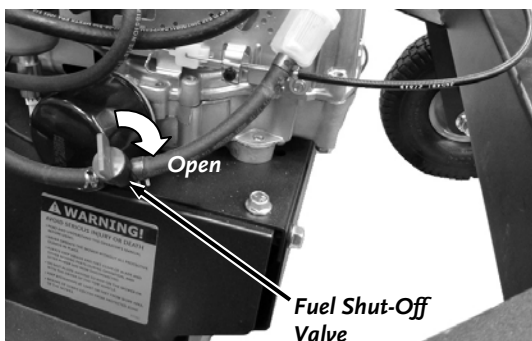

Figure 25: Mow Pro 60
3. Open the Fuel Shut-Off Valve (Mow Pro-60) on the left hand side of the Mower (**Figure 25**).
1. Disengage the Blades by pushing the Blade Control Safety Cover down (**Figure 25**).